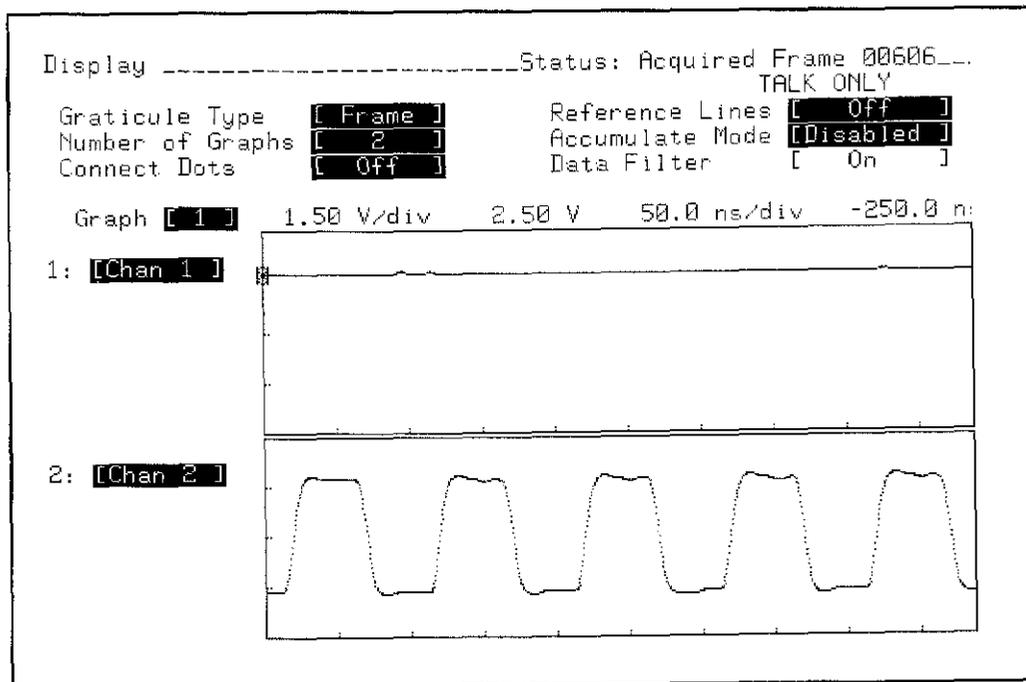

Figure 3-46. DISPLAY Configuration and Threshold Accuracy Test Waveforms
10. Configure the display as shown in figure 3-46. The waveforms should appear similar to those shown in figure 3-46.